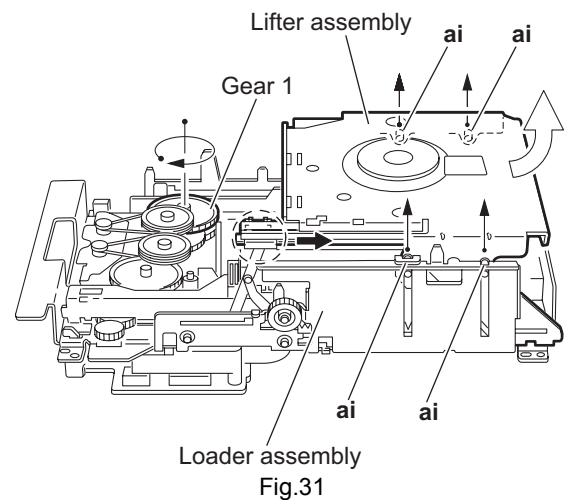

Fig.31
- (5) Turn the gear 1 clockwise again to move the lifter assembly upward. (See Fig.31.)
- (6) Remove the lifter assembly from the DVD changer mechanism assembly upward at the positions **ai** where the four pins on the both sides of the lifter assembly fit to the notches of the loader assembly. (See Fig.31.)